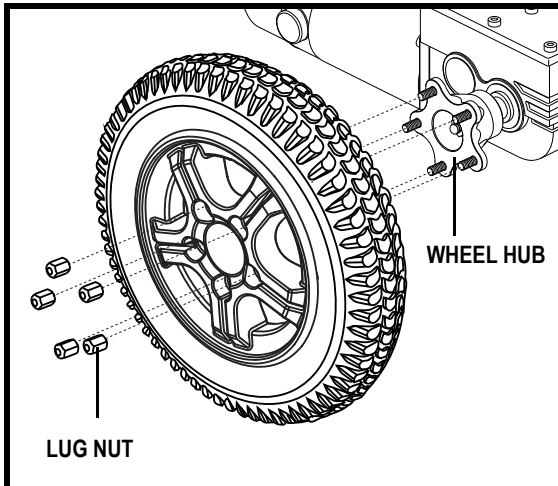

Figure 25. Quantum 600 Series Drive Wheel
4. Remove the five (5) lug nuts from the wheel hub. See figure 25.